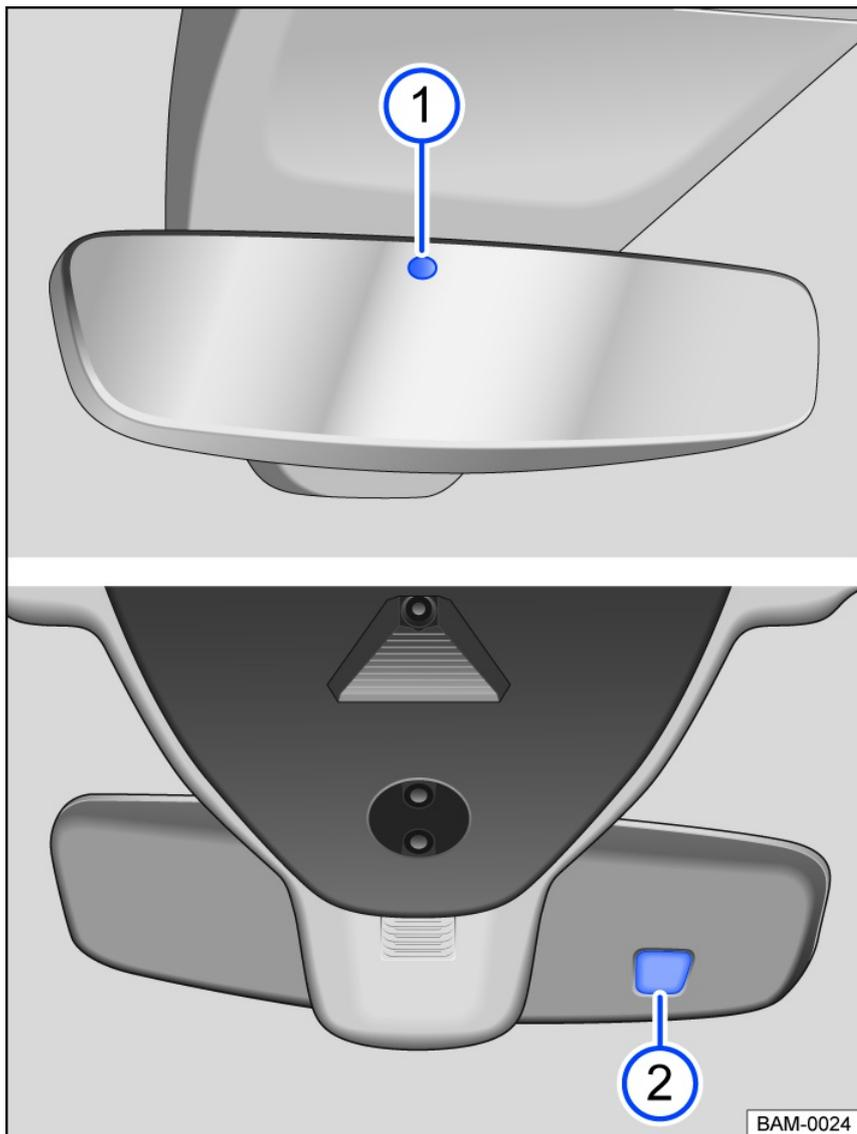

Fig. 102 On the windshield: automatic dimming rearview mirror.
When the ignition is on, the sensors measure the amount of light entering from the rear fig. 102 ① and from the front ②.